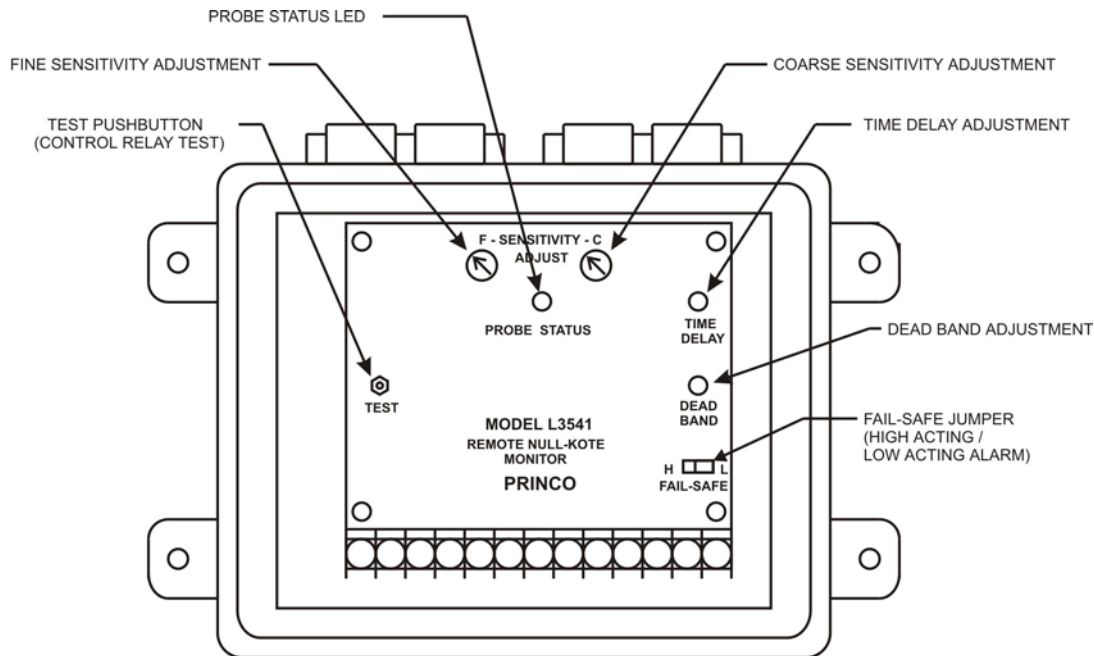

Figure 4-1. L3541 Adjustment and Indicator Locations
1. Refer to Figure 4-1 for L3541 adjustment and indicator locations.
- a) Refer to Figure 4-1 for adjustment and indicator locations. Refer to Figure 4-2 for a pictorial outline of this procedure.
- a) Refer to Figure 4-1 for adjustment and indicator locations. Refer to Figure 4-3 for outline of this procedure.
- f) Preset the Fine Sensitivity pot (F) full clockwise and the Coarse Sensitivity pot (C) full counter-clockwise.
- g) With process material NOT contacting the probe, adjust the Coarse (C) sensitivity pot clockwise such that the PROBE STATUS LED "just turns" green and stays. Don't touch the Coarse (C) sensitivity pot again.
This action is controlled by a small, plastic jumper selector switch FAIL-SAFE (F-S) located on Control Unit (Figure 4-1). The L circuit pad designates Low Acting Alarm. The H circuit pad designates High Acting Alarm. The center pad is the common, and always connects to one position of the jumper selector.
A single turn TIME DELAY pot is provided on the L3541 (see Figure 4-1). Most applications require no time delay. Therefore, adjust the TIME DELAY pot to the maximum counter-clockwise direction (zero time delay).